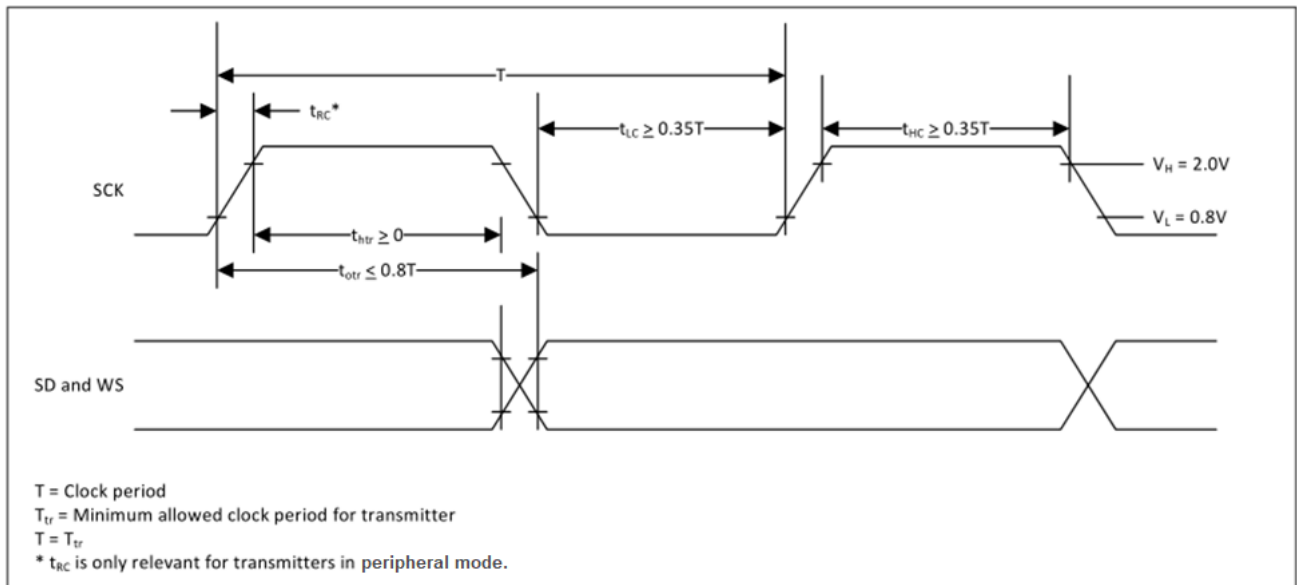

Figure 13: I2S transmitter timing
Figure 13 shows the transmitter timing for the Continuous Serial Clock (SCK), Word Select (WS) and Serial Data (SD) signaling for the transmitter.